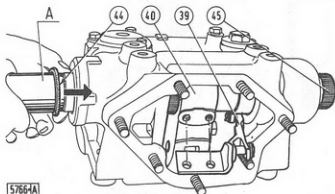
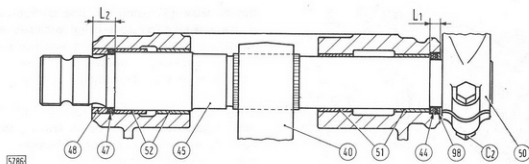

Fig. 215 - Removing the Lift Cross-shaft
Fig. 219 - Section through Lift Cross-shaft Assembly
- Dismantle lift levers (50, Fig. 219), lift cross-shaft (45, Fig. 215) and crank lever (40). Withdraw O-ring (44) to prevent it from being damaged, disconnect link (39) from the crank lever and withdraw lift cross
- Check cross-shaft working clearance. If the bushes need renewing, remove using adequate drifts. When fitting new bushes, refer to the data given in Fig. 219, and, if necessary, ream the bores to obtained the prescribed diameter.